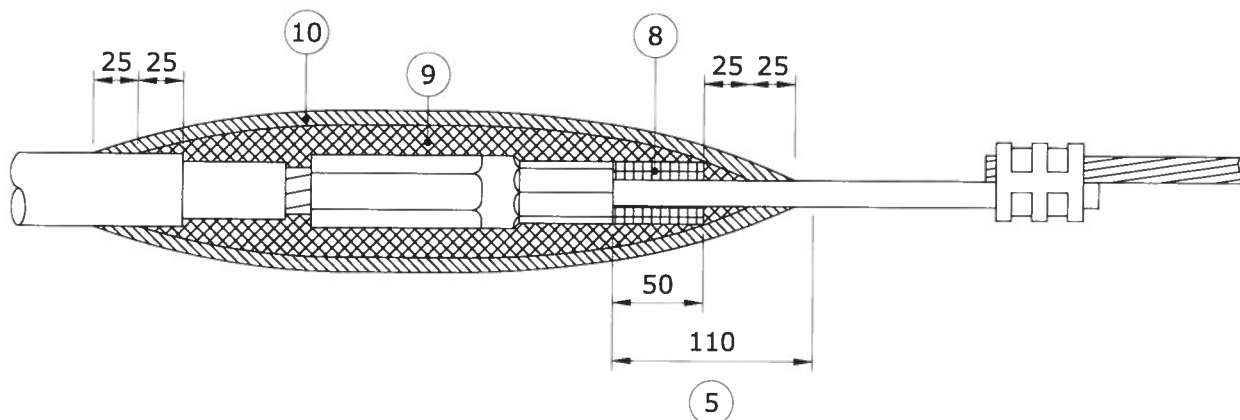

FIGURE 2
- 5 ABRASE ROD PORTION OF ROD CONNECTOR WITH ABRASIVE TAPE AS SHOWN IN FIGURE 2.
- 8 APPLY THE PRECUT STRIP OF RUBBER MASTIC TAPE 1/4 STRETCHED, SHINING SIDE DOWN ONTO THE ROD AS SHOWN IN FIGURE 2.
- 9 APPLY 2 LAYERS OF HALF LAPPED 3/4 STRETCHED SELF AMALGAMATING ETHYLENE PROPYLENE RUBBER TAPE (S.C.# 78 55 23) AS SHOWN IN FIGURE 2.
- 10 APPLY 2 LAYERS OF HALF LAPPED 3/4 STRETCHED COLD WEATHER VINYL TAPE (S.C.# 78 55 98) AS SHOWN IN FIGURE 2.